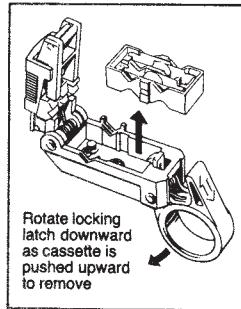

FIGURE 11
**TO CHANGE OR REVERSE CASSETTE**, move locking latch in direction of arrow, then push cassette out of tool by inserting wrench through hole in bottom of tool (Fig. 11).